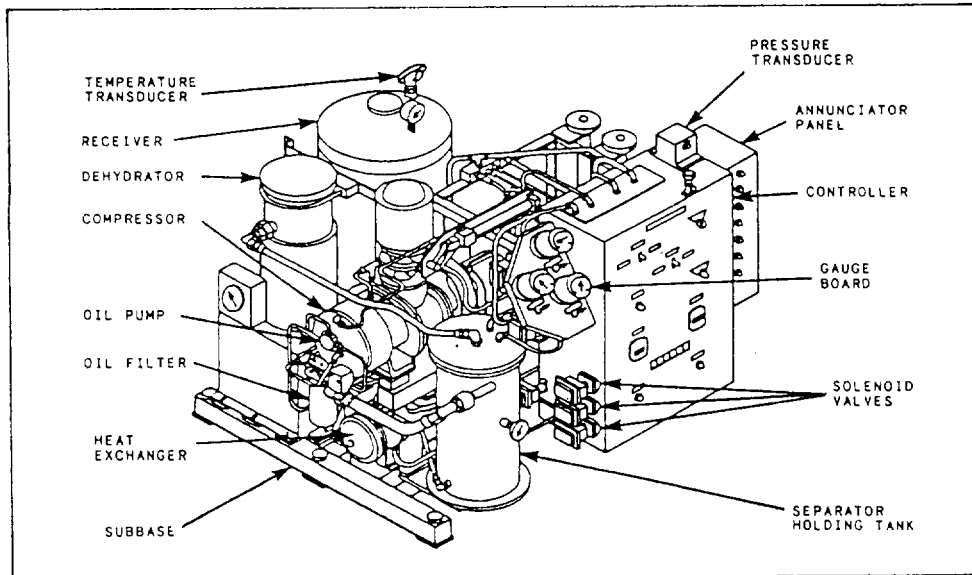

Figure 10-23. LPAC unit (screw type.)
**SCREW TYPE.**— The helical-screw type of compressor is a relatively new design of oil-free air compressor. This low-pressure air compressor is a single-stage, positive-displacement, axial-flow, helical-screw type of compressor. It is often referred to as a screw-type compressor. Figure 10-23 shows the general arrangement of the LPAC unit.